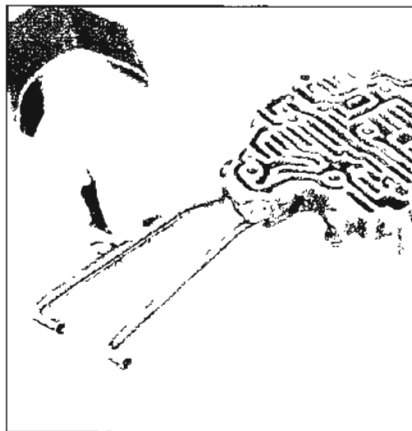

Figure 5-722
2. Install governor pipes into assembly. See Figure 5-722.